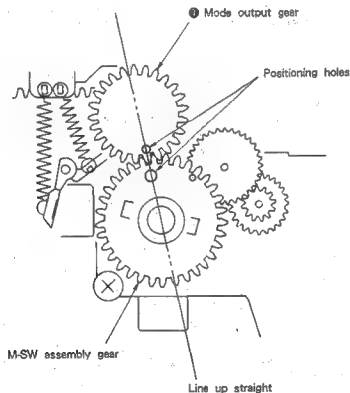

Fig. 7-39.
- 1) Mount the mode output gear ④ so that the positioning holes are lined up. (See Fig. 7-39.)
11) Fix stopper washer ⑥.
13) Mount B release arm assembly ⑦ and hook spring ⑧.
15) Mount the LD-1 board ⑨.
16) Mount drive gear ⑩ assembly ⑪ and fix stopper washer ⑫.